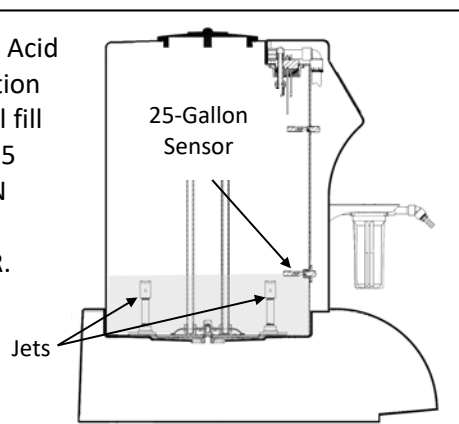

Figure 17
3. Once the 25-Gallon Sensor is reached, the control panel will automatically step to the first RECIRCULATE Operation (figure 17). With your safety glasses on, lift the Access lid and check for correct spray ball operation. See figure 4, page 11, for the illustration of correct or incorrect spray ball operation.